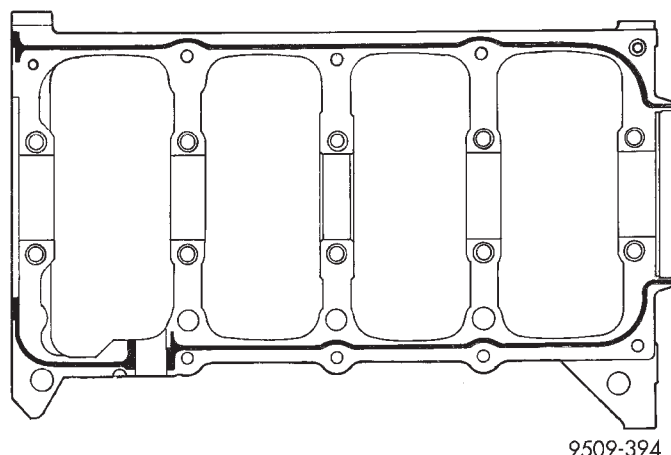

Fig. 75 Main Bearing Caps/Bedplate Sealing
(1) Insert a 3/16 flat bladed screwdriver between the dust lip and the metal case of the crankshaft seal. Angle the screwdriver (Fig. 75) through the dust lip against metal case of the seal. Pry out seal.
(4) Apply 1.5 to 2.0 mm (0.059 to 0.078 in.) bead of Mopar Torque Cure Gasket Maker to cylinder block as shown in (Fig. 75).